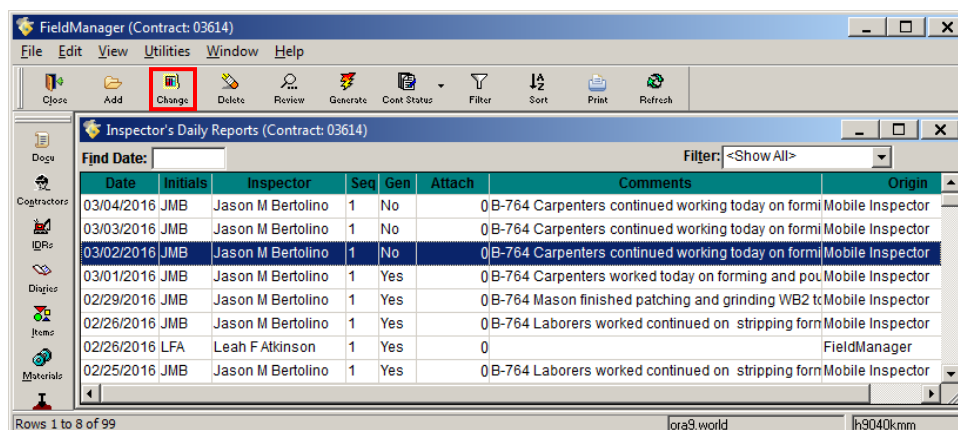
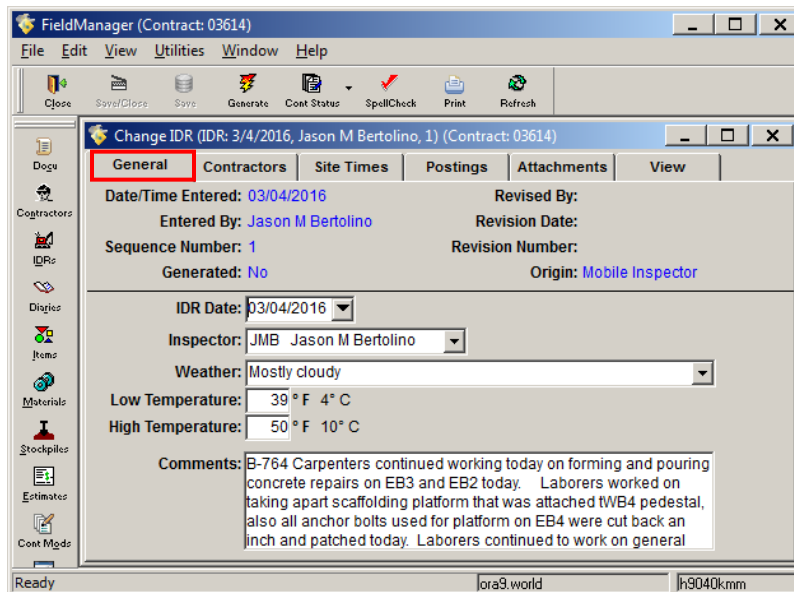

Figure 7-11. Inspector's Daily Reports List Window
Figure 7-12. Change IDR Window – General Tab
1. Select the contract in the Contracts list window, click on **IDRs** on the Application Toolbar. The Inspector's Daily Reports list window opens (Figure 7-11).
2. Select the IDR from the Inspector's Daily Reports list and click **Change** on the Application Toolbar (Figure 7-11) or double-click on the IDR. The Change IDR windows opens in the General tab (Figure 7-12).